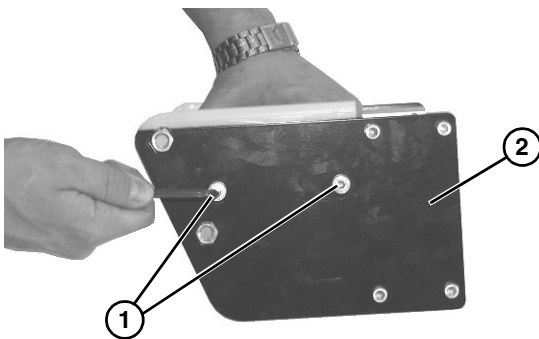

Figure 42
4. Remove two low head cap screws (**Figure 42, item 1**) from plate (**Figure 42, item 2**). Repeat procedure on opposite side.